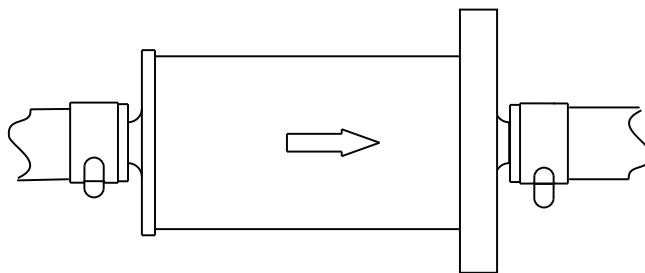

Figure 5-17 Point Arrow in Direction of Fuel Flow.
1. With the arrow pointing in the direction of fuel flow, install **new** fuel filter between fuel inlet and outlet hoses. See Figure 5-17.